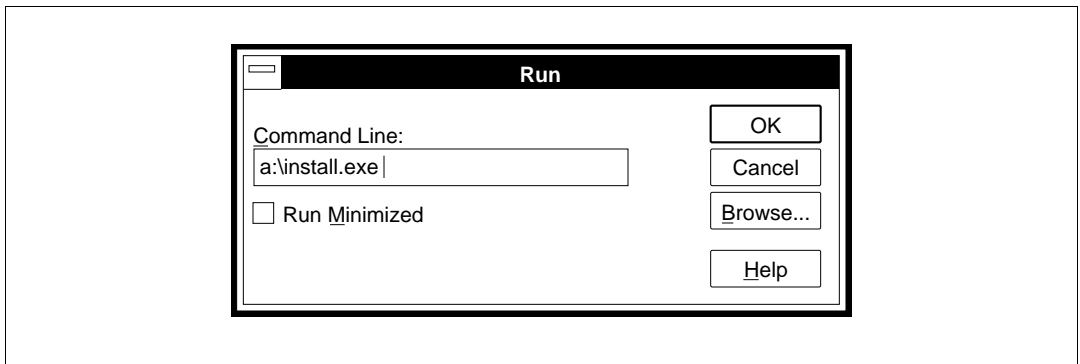

Figure 2-3 File Name Input (INSTALL)
- (1) Insert the provided disk into floppy disk drive A.
- (2) Click the [File] menu on the Program Manager window.
- (3) Select the [RUN...] command by clicking on it; the dialog box for the [File - RUN...] command will be displayed.
- (4) Enter a:\install.exe in the file name text box as shown in figure 2-3.